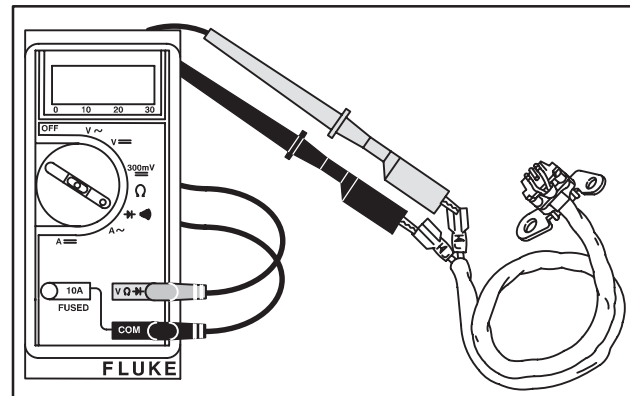

Fig. 3 – Testing Trigger
1. Attach a meter test lead to each trigger terminal in connector, Fig. 3.